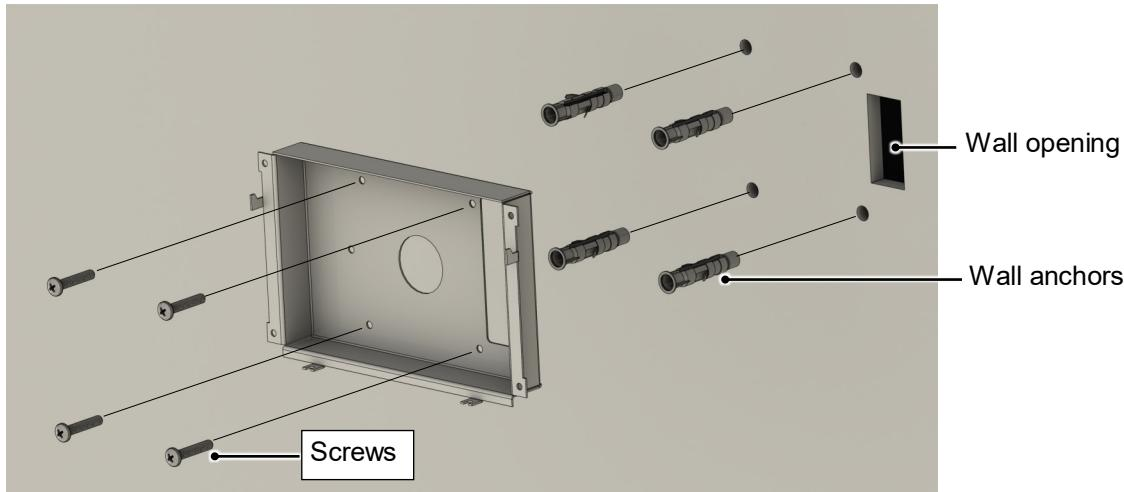

Fig 21. Secure the Bracket to the Wall
2. Cut an area in the wall to route the connecting cables (Fig 21). Do not cut an area larger than the size of the user interface. See section "3.4 Specifications" for user interface dimensions.
3. Hold the bracket over the opening. Place a level on top of the bracket to make sure it is even. Pre-drill four pilot holes into the wall (Fig 21).
4. Secure the bracket to the wall using four #6 screws (customer-supplied). Use wall anchors if needed (customer-supplied) (Fig 21).